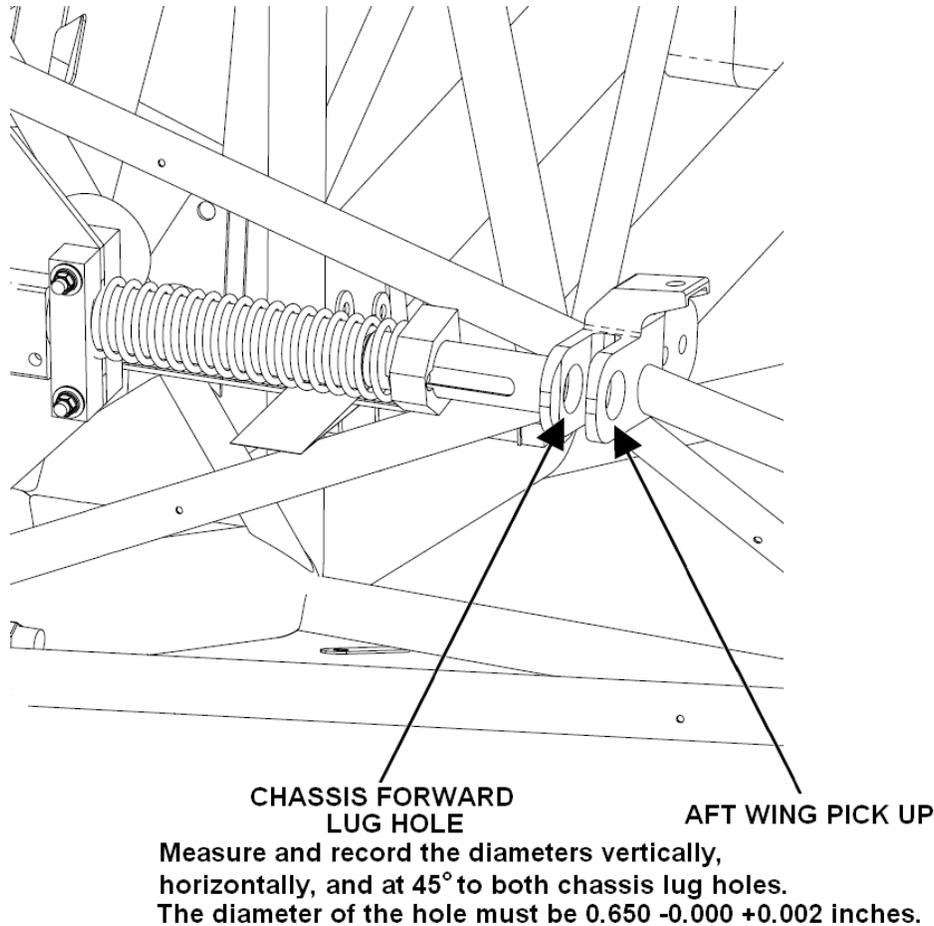

Figure 57-19 Measurement of the Aft Wing Clevis Pin Weldment
2. Using a calibrated micrometer, measure and record the diameters vertically, horizontally and at 45° to both chassis lug holes. See Figure 57-19.